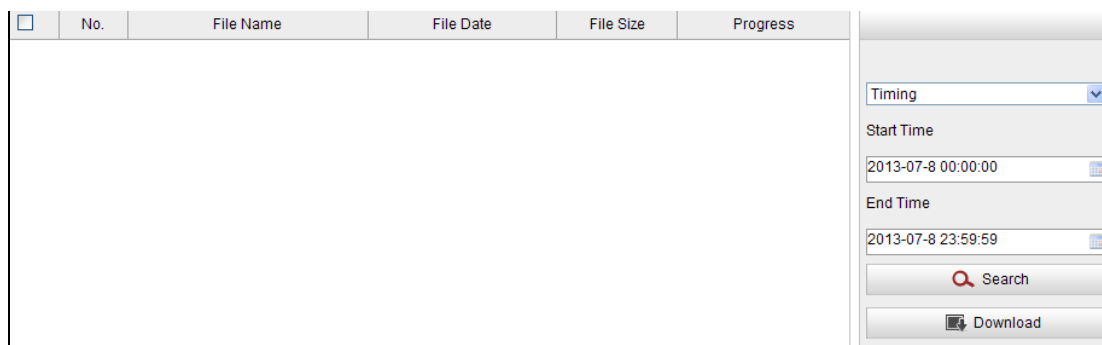

Figure 8-8 Picture Downloading interface
1. Click  on the playback interface. The pop-up menu is shown in Figure 8-8.